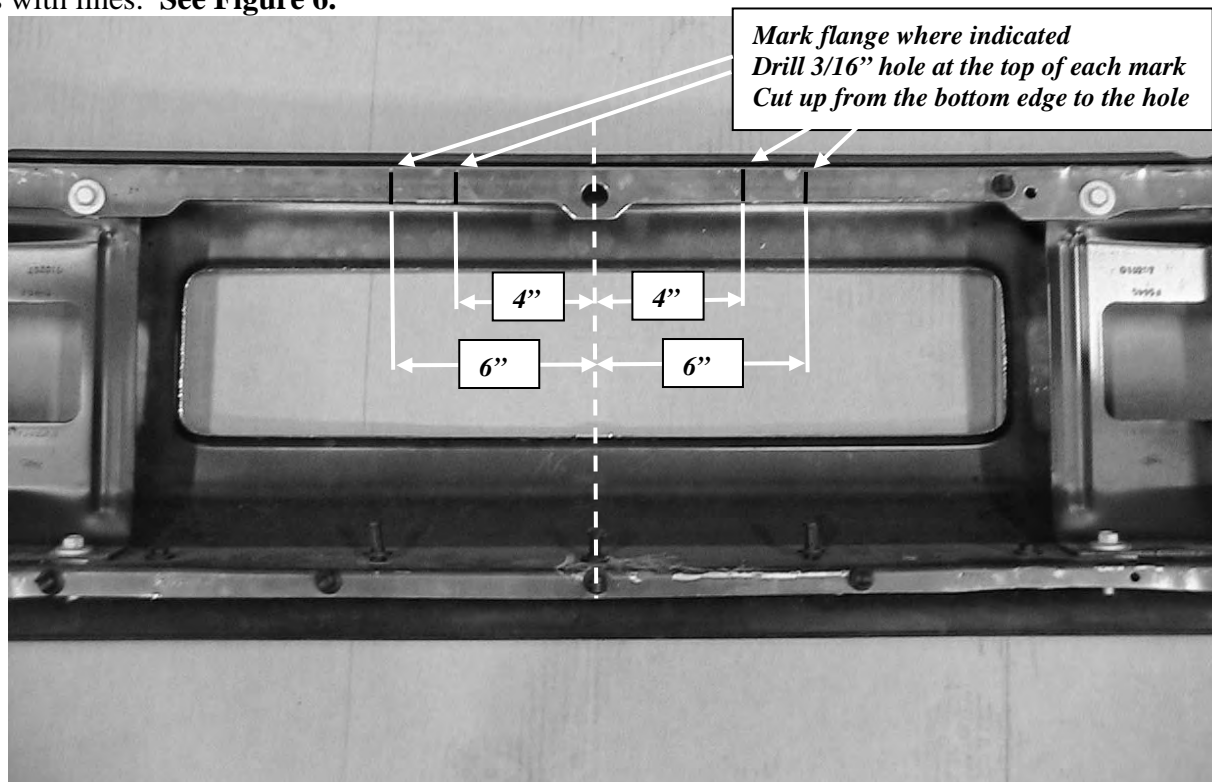

Figure 6 Bumper Flange drilling/cutting locations. Left and right side should be marked the same.
9. Measure 4" outward from the center of the center hole in the upper bumper flange, in both directions. Mark these locations with vertical lines from the bottom edge of the flange to just below the bend at the top of the bumper flange. Measure again at 6" outward from the center of the center hole in both directions and mark these locations with lines. **See Figure 6.**